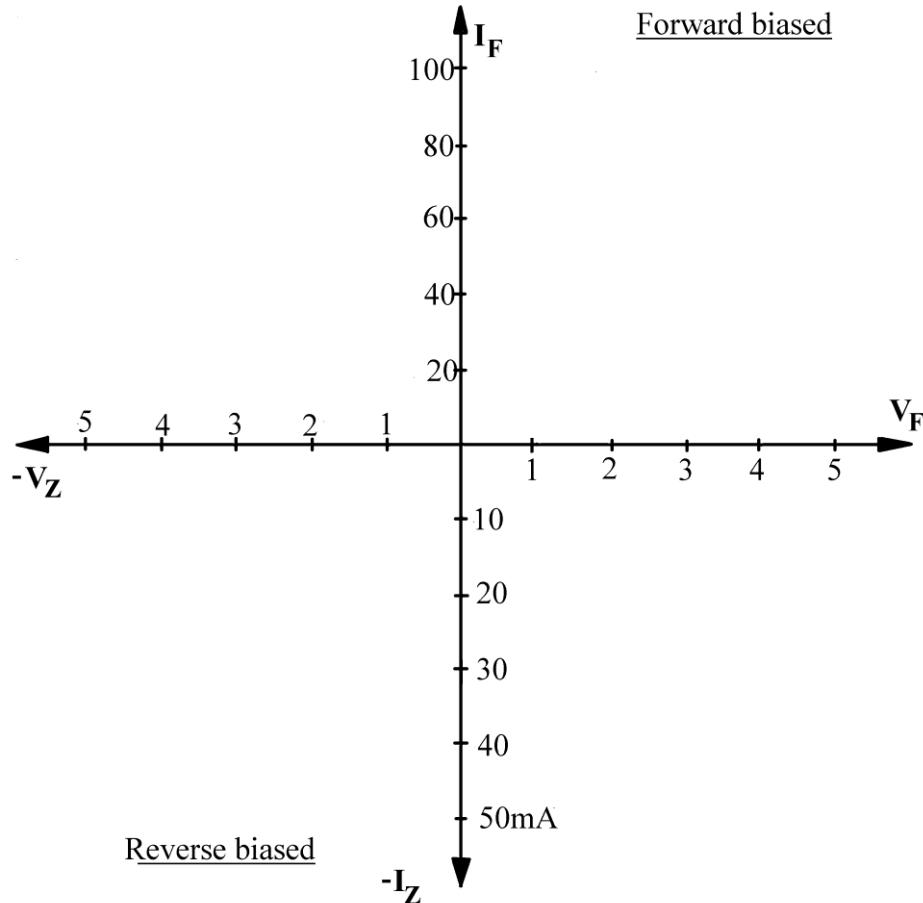

Figure 3
- Plot from Table 1 the zener current (I_Z) as a function of a zener voltage (V_Z) on the reverse characteristic axis of Fig. 3. Also plot from Table 2 forward current (I_F) as a function of forward breakdown voltage (V_F) on the forward characteristic axis of Fig. 3.